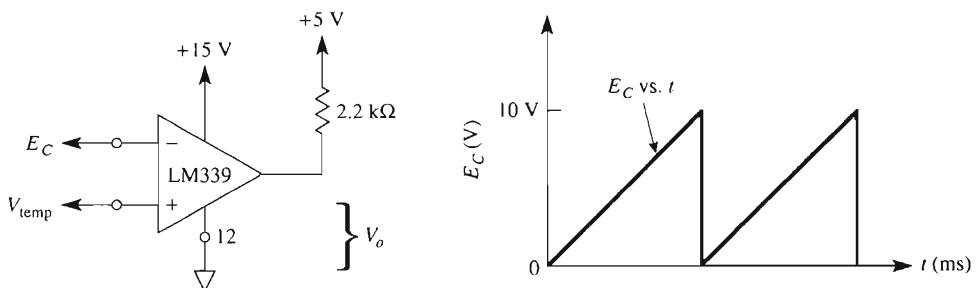

FIGURE P2-14
- 2-14. The frequency of carrier wave E_c is constant at 50 Hz in Fig. P2-14. If $V_{temp} = 5$ V, (a) calculate high time T_H ; (b) plot V_o vs. time.